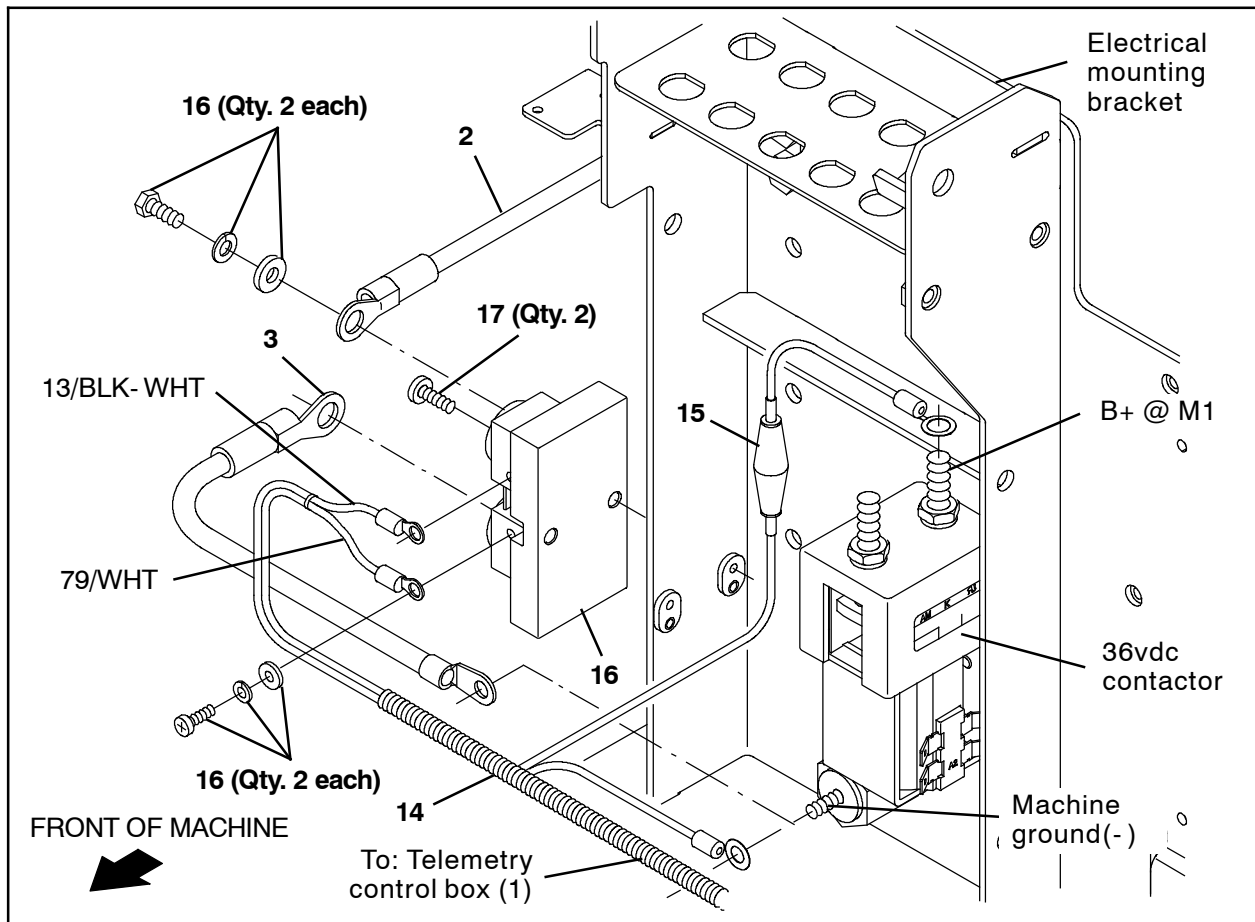

FIG. 3
2. Use two M4 pan screws (17) to install the shunt (16) onto the electrical mounting bracket. (Fig. 3)
3. Connect the black cable (3) to the shunt (16). (Fig. 3)
4. Connect the black cable (3) to the 36vdc contactor / machine ground (-). (Fig. 3)
6. Connect the battery cable assembly (2) black cable to the shunt (16) (Fig. 3)
7. Connect the telemetry harness (14) 13/BLK-WHT wire to the side of the shunt (16) with the black cable (2). (Fig. 3 / Fig. 5)
8. Connect the telemetry harness (14) 79/WHT wire to the side of the shunt (16) with the black cable (3). (Fig. 3 / Fig. 5)
9. Connect the telemetry harness (14) to the B+ at M1 terminal on the 36 VDC contactor. (Fig. 3 / Fig. 5)